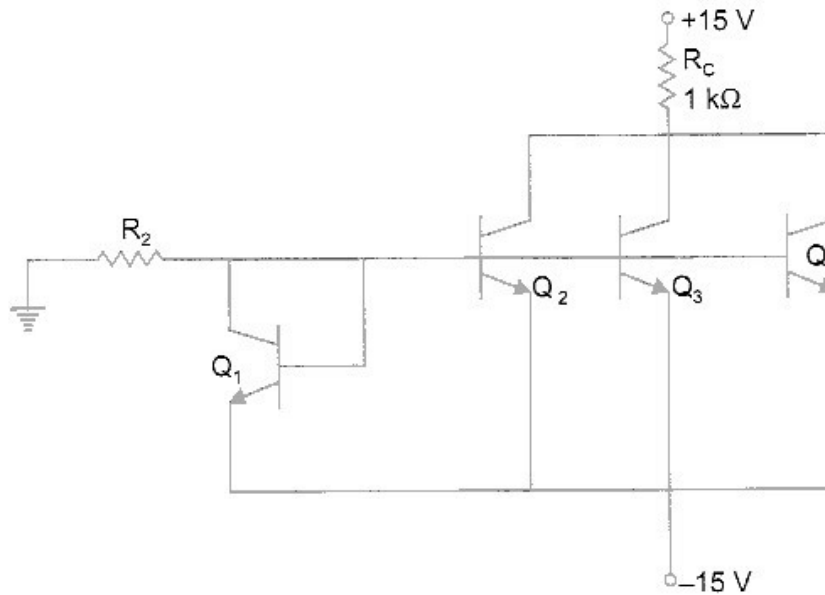

Fig. P. 2.18
- 2.18. For a modified current mirror shown in Fig. P. 2.18, calculate (i) the current through the collector resistor R_C and (ii) the collector current in each transistor. Assume $V_{BE} = 0.7 \text{V}$ and $\beta = 100$.